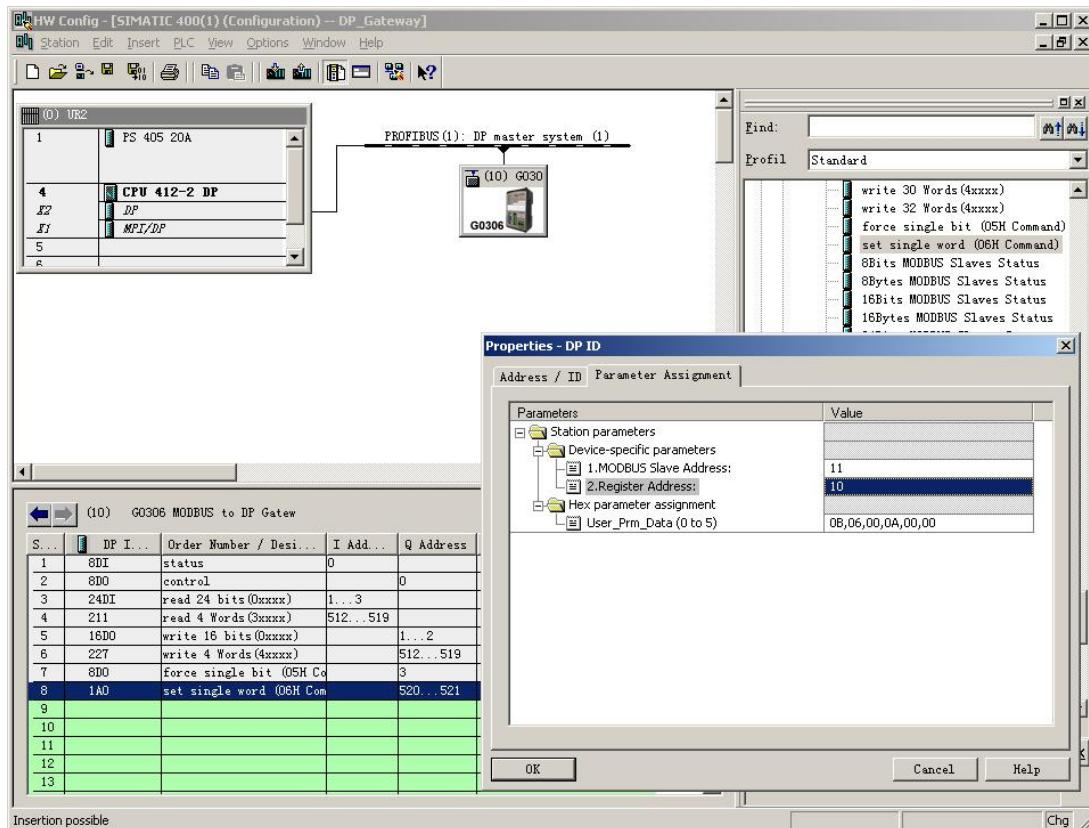

Figure 32 Configure User Parameters of “set single word (06H Command)” Module
- b) Configure user parameters of “set single word (06H Command)” module, shown in Figure 32:
"1.MODBUS Slave Address: "⇒Type MODBUS slave address 11, shown in Figure 32.
"2. Register Address:" ⇒Type register address 40011 of register 4xxxx to be written, set address as 10⇒"OK", shown in Figure 32.